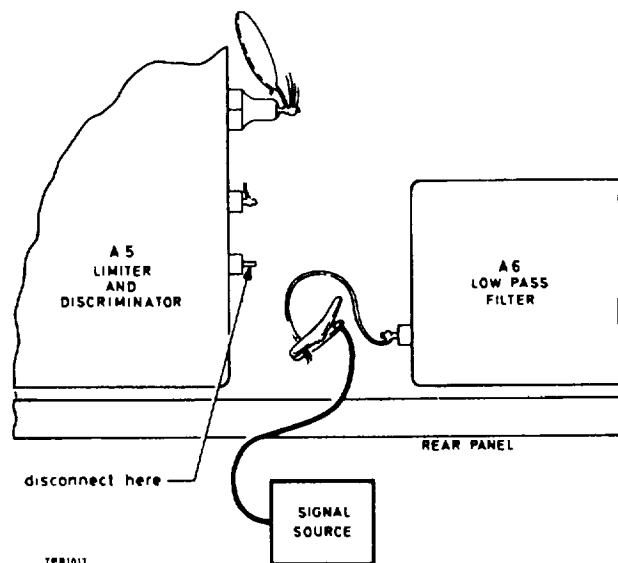

Fig. 5-3. Location of discriminator output lead.
- (1) Connect the 0.014 μ F capacitor, r.m.s. voltmeter and oscilloscope across the OUTPUT terminals.
- (2) Turn the oscillator RANGE switch to EXT.
- (3) Connect the 1.5 MHz crystal oscillator to the R. F. In socket and turn the MAX MOD FREQ switch to 15 kHz.
- (4) Turn the Function switch to SET FREQ-F. M. and check that the TF 2300A meter deflects to the SET mark.
- (5) Turn the Function switch to TUNE and adjust the LEVEL control to bring the TF 2300A meter reading to the top end of the black R. F. LEVEL arc.
- (6) Turn the Function switch to SET CAL and adjust the r. m. s. voltmeter range switch to give a convenient reference level. Note this reference level.
- (7) Turn the Function switch to DEV+ and the RANGE switch to 5 kHz. Turn down the external voltmeter range switch and check that the reading is at least 52 dB below the reference level, i. e. -72 dB relative to the level of 50 kHz deviation.
- (8) If not, remove the yellow lead from the discriminator output, A5 pin 4 (see Fig. 5-3) and check that the noise level drops to -58 dB. A high noise figure can be improved by selection of transistors Q3, Q4, Q5,